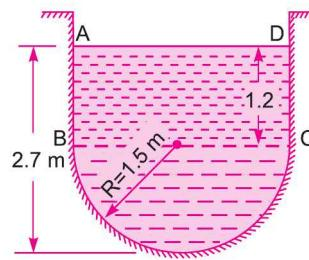

Fig. 16.5
**Problem 16.6** Find the discharge of water through the channel shown in Fig. 16.5. Take the value of Chezy's constant = 60 and slope of the bed as 1 in 2000.
$$\text{From Fig. 16.5, Area, } A = \text{Area } ABCD + \text{Area } BEC$$